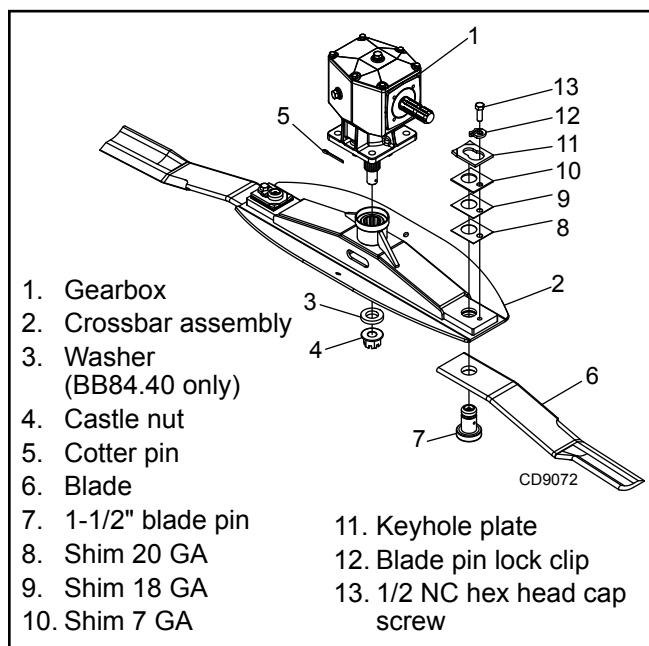

Figure 19. Crossbar and Blade Removal
3. Remove cotter pin (5), castle nut (4), and washer (3) from bottom of crossbar, Figure 19.
1. Using emery cloth (220 or finer), remove surface rust, Loctite® and foreign material from hub, splined gearbox vertical shaft and crossbar as shown in Figure 19.
2. Apply anti-sieze compound to splines and install crossbar (2) on splined shaft. Install washer, castle nut, and cotter pin. Torque nut: